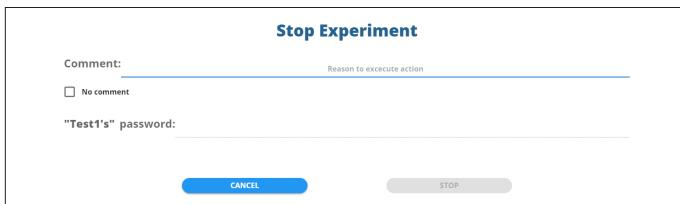

Fig. 87—To stop an experiment, you need to enter a comment and your password.
- If you stop an experiment (Fig. 87), the autosampler finishes the data collection on the present column and lifts the electrode array out of the well plate. The data acquisition is halted. The sequence may be restarted.